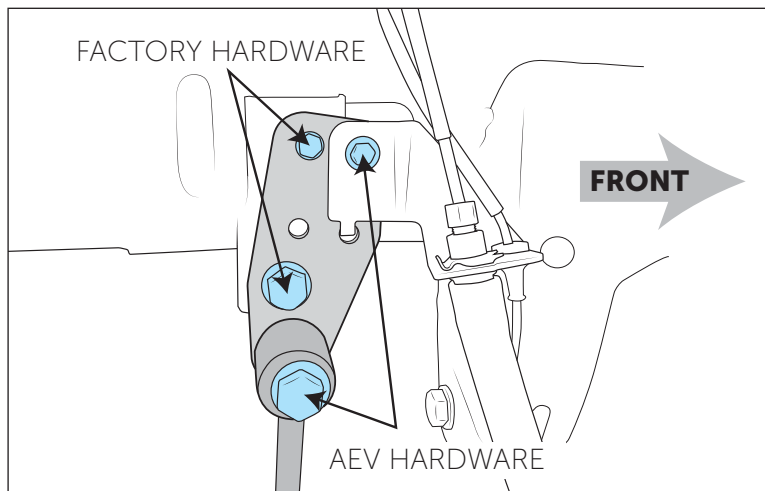

Figure 14
- A. Install end link/brake line brackets on vehicle as shown (fig. 14) using factory brakeline bracket hardware and factory upper end link hardware. Torque M12 end link bolt to 55 lb-ft and M6 bolt to 15 lb-ft.
- B. Install brake line bracket to forward upper set of holes (fig. 14). Alignment tab will go into lower hole and provided M6 bolt will go through both brackets. Nut can be installed to rear of brackets using box end M10 wrench. Torque to 15 lb-ft.
- C. Install AEV end links to lower holes in the brackets using the provided M12 x 60mm flange bolts and nuts (fig. 14). Install lower studs to axle mounts using provided M12 nuts (factory end link nuts are different thread pitch). Torque top endlink bolt to 55 lb-ft and lower nut on stud to 37 lb-ft.